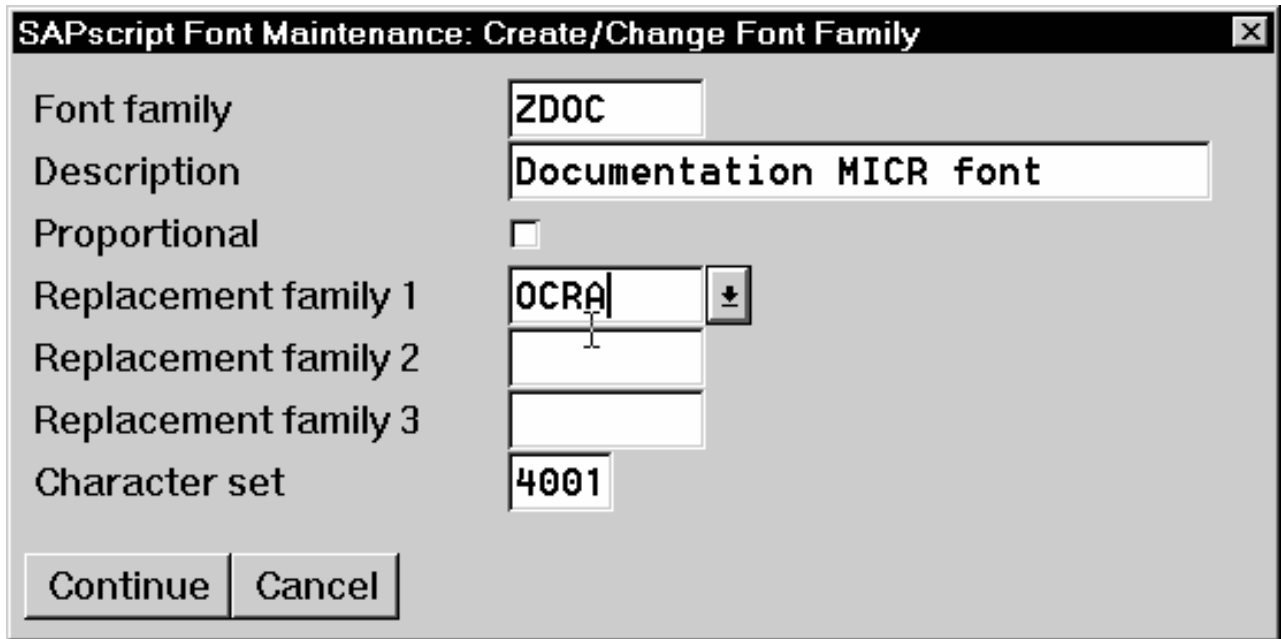

Figure 64. SAPScript Font Maintenance: Create/Change Font Family window
3. Select the **Create** icon and fill in the font information on the Create/Change Font Family window as shown in Figure 64 on page 151: